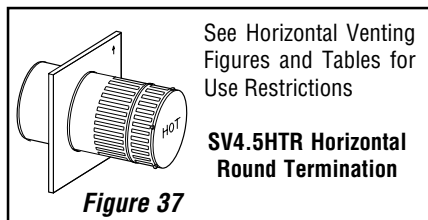

Figure 37
2. Install the round termination (SV4.5HTR) - See **Figure 37** for an illustration of the round termination. For the last step, from outside the exterior wall, slide the collars of the termination onto the adapter (the outer over the outer and the inner inside the inner) until the termination seats against the exterior wall surface to which it will be attached.